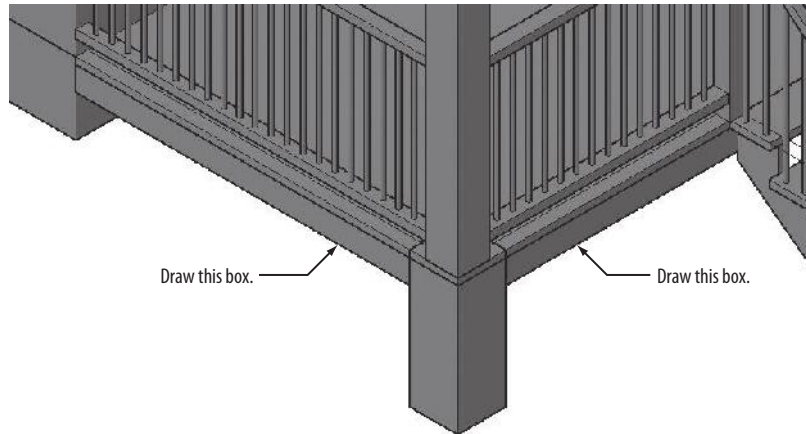

FIGURE 16.64: The 2" × 6" skirt added below the deck
4. Draw a 2" × 6" (51 mm × 153 mm) box on the side and front of the deck, just below the surface, as shown in Figure 16.64.